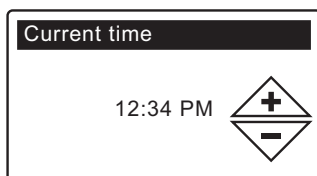

FIG. 15
5. **CURRENT TIME** Press the DOWN (▼) or UP (▲) buttons to set the current time (See Figure 15). Hold the button down to rapidly advance. Be sure that AM or PM is correct. If the system units were set to metric in Step 3, the clock will be in 24-hour format.